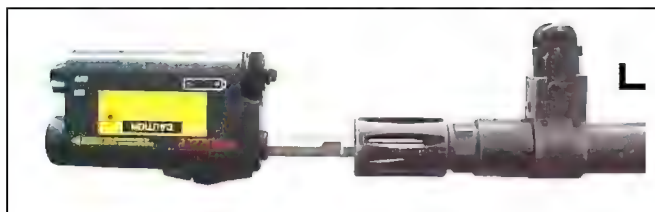

Figure G-2. Bore light in the START-POINT position.
(3) *Start Point*. Rotate the bore light until the battery compartment is facing upward and the adjusters are on the bottom. This position of the bore light and where the visible laser is pointing is identified as the start point (Figure G-2).